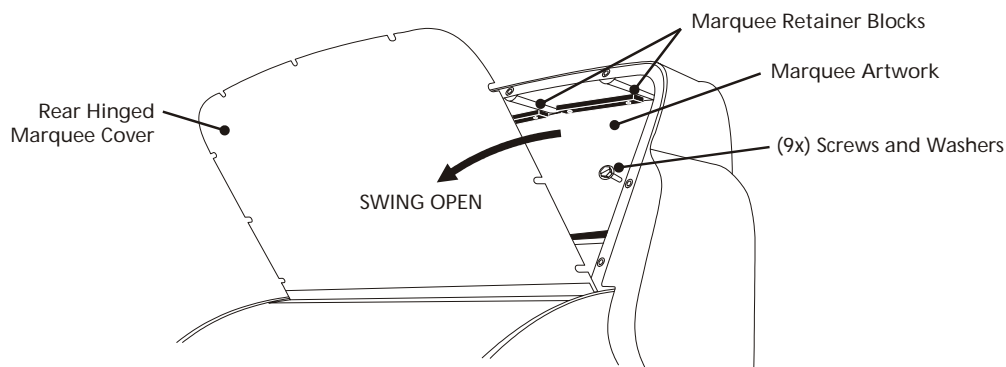

Figure 25. Installing the Marquee Artwork (Deluxe Cabinet)
3. Refer to Figure 25, and tilt the marquee cover back on its hinge. You may need a stepladder to access the marquee interior.